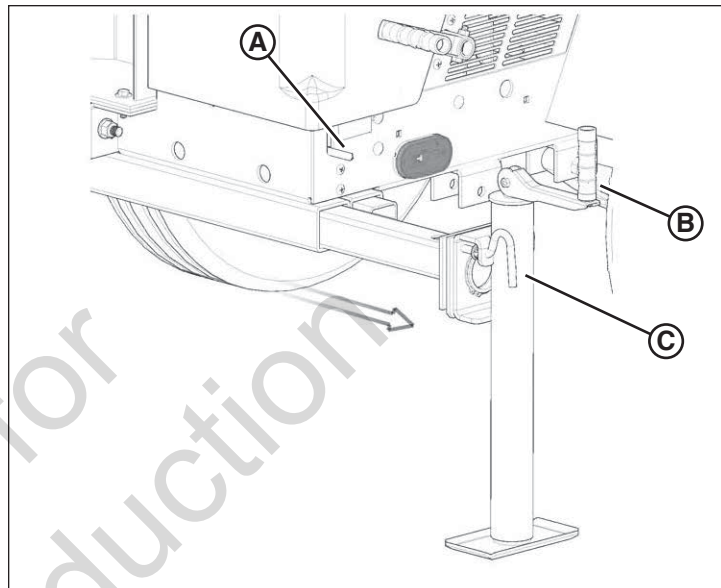
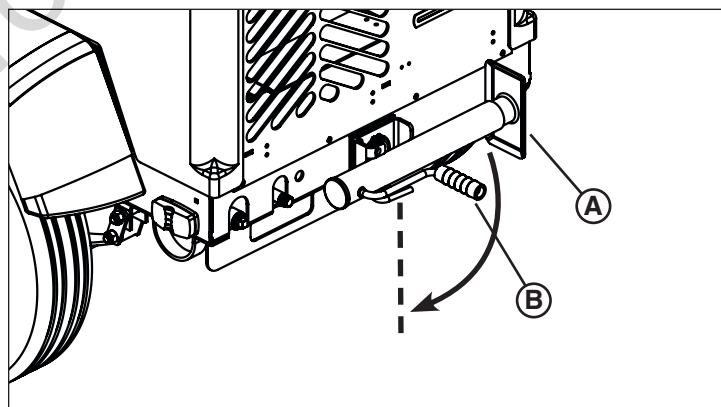
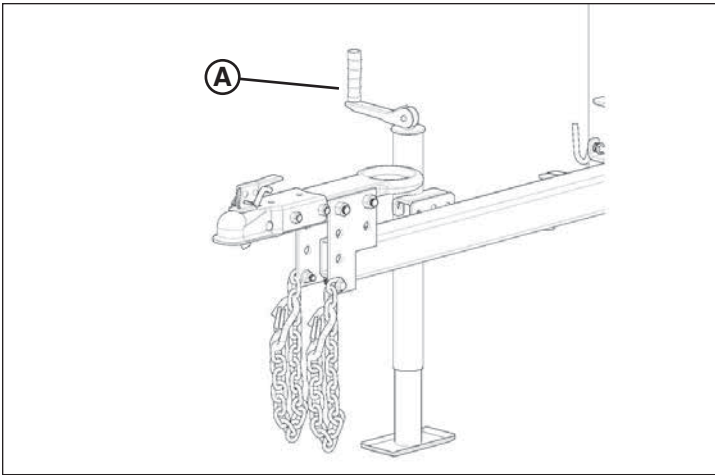

Figure 17
Figure 18
Figure 19
3. Extend the front outrigger stabilizers, and lock in place with the outrigger lock pin (A, Figure 17).
4. Rotate each outrigger stabilizer jack perpendicular with the ground, and lock in place with the jack pin (C, Figure 17). Do the same with the rear stabilizer jack (A, Figure 18).
5. Adjust each stabilizer jack (B, Figures 17 and 18) and the tongue jack (A, Figure 19) to achieve proper leveling.